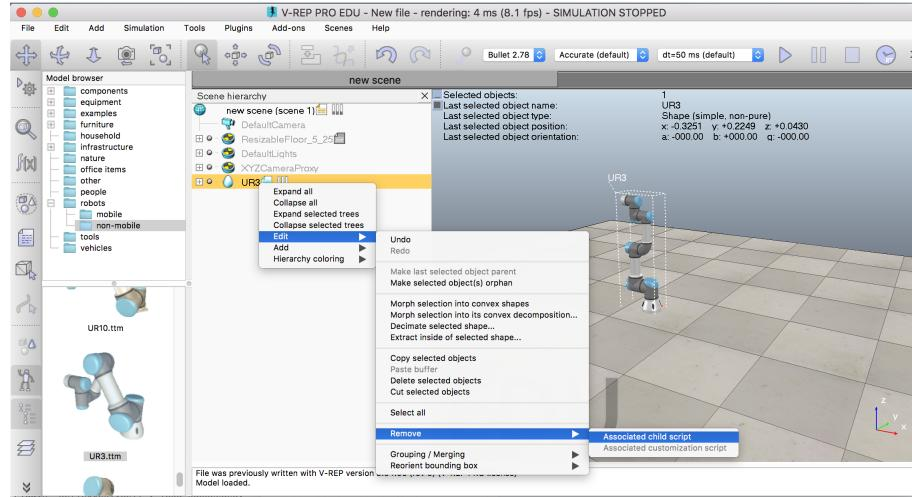

Figure B.4: Delete the default child script from ur3
- Delete the default child script (Figure B.4) from your robot before you try your remote API program, otherwise you will have two scripts that control the same robot.